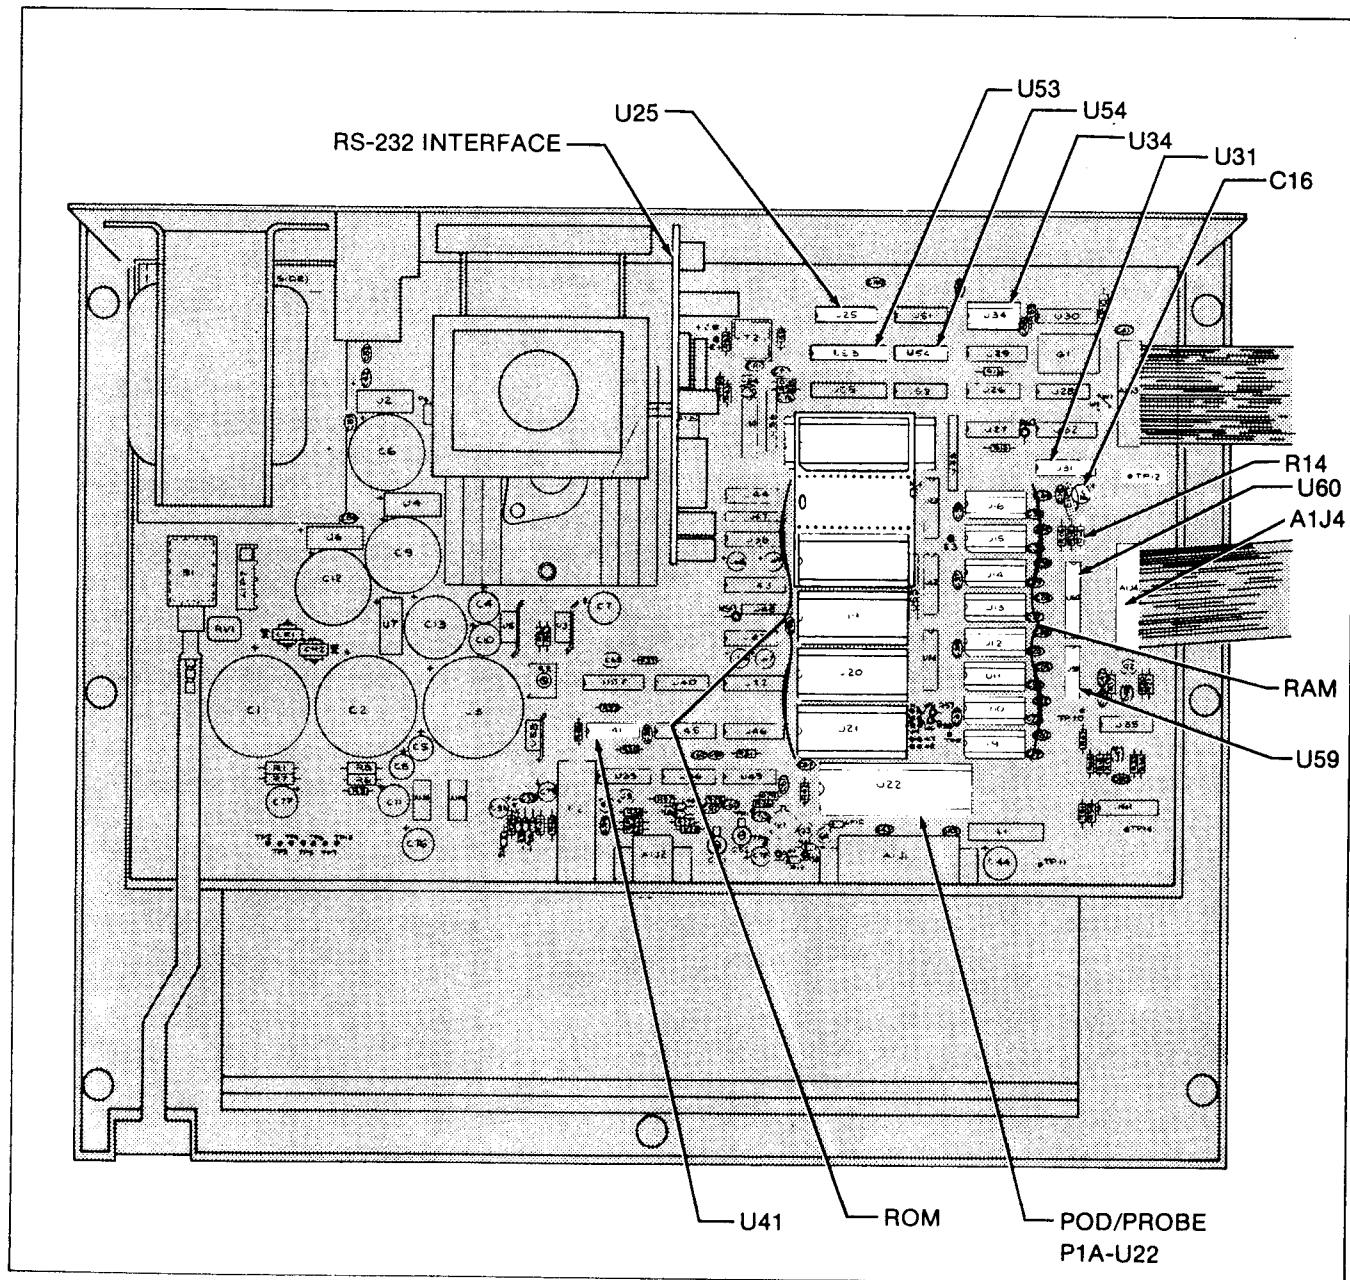

Figure 4-7. Main Assembly Components
1. With ac power off, and with reference to Figure 4-7, remove the ROM piggy-back bracket (not illustrated) and PCB assembly and the Z80 microprocessor (U8) from the Main Assembly.
2. Using the tester 9010A probe in the sync-free-run pulse-low mode, momentarily connect the probe tip to U31-4 of the UUT. (Refer to Figure 4-7 for the location of U31.) The UUT should beep and display the power-up message FLUKE 9000 POWER-UP OK VER-xx (where xx indicates the current software version number) each time the probe is momentarily connected to U31.
4-52. Failure of the pod/probe PIA typically causes communication problems with the pod and/or the probe since all commands and data move through the PIA. Using the following procedure, verify proper operation of the pod/probe PIA. (Figure 4-7 shows the location of the pod/probe PIA U22, U31, U34, and U25.)
1. Turn off the UUT and remove the Display/Keyboard Assembly connector A1J4 (shown in Figure 4-7) to disable the beeper. Using a clip lead, disable the watchdog timer (U31) by jumping R14 (the end adjacent to C16) to TP12 (gnd). Turn on the tester 9010A and then the UUT.